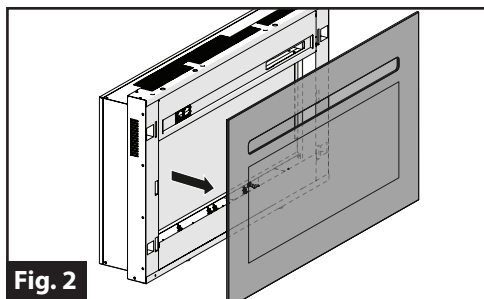

Fig. 2
4. Lift to remove the glass cover from unit and set aside. (Fig. 2)